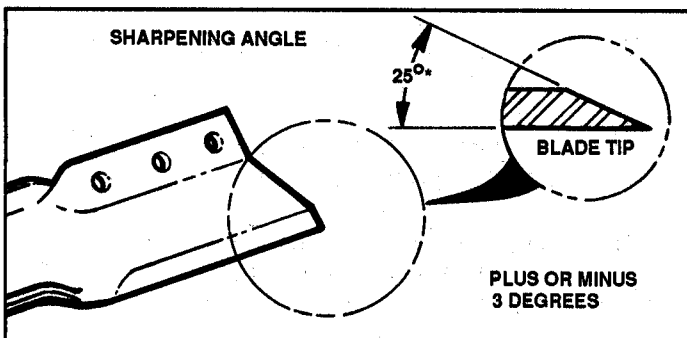

FIGURE 3.8
- If blades are in good condition, sharpen at an angle of 22-28 degrees in about 2-1/2" from tips. See Figure 3.8.